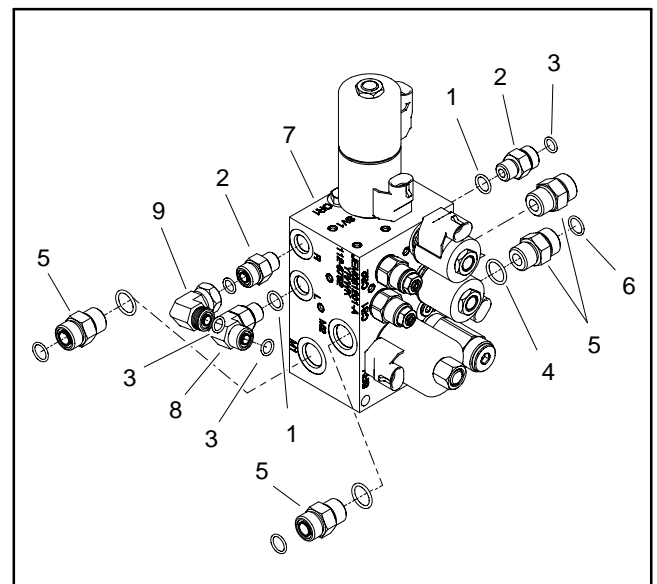

Figure 18
8. Support control manifold to prevent it from falling. Remove two (2) cap screws, flat washers and lock nuts that secure hydraulic manifold to the frame mounting bracket.
10. Remove hydraulic fittings from manifold as needed (Fig. 18). Discard any removed O-rings.